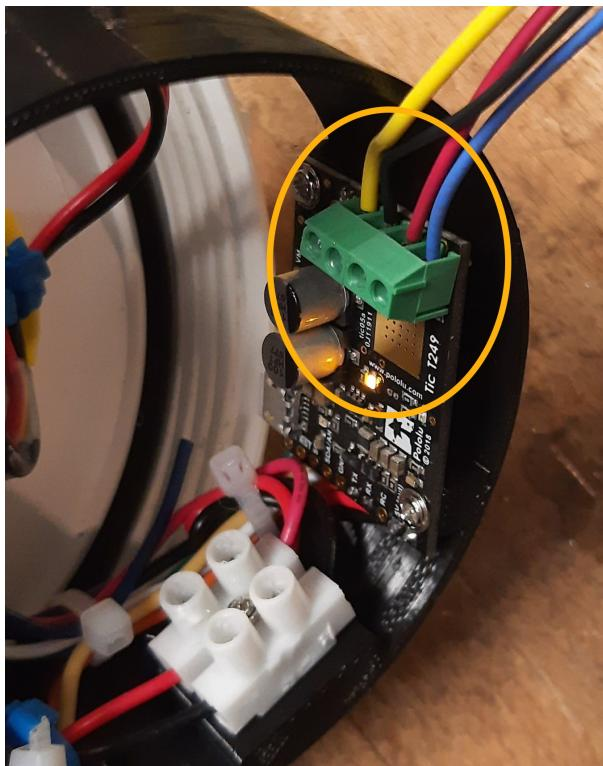

Figure 2. Motor controller board wiring.
12. Connect the motor connector wiring (socket end) to the newly installed terminal block. Follow the colour order shown in Figure 2.